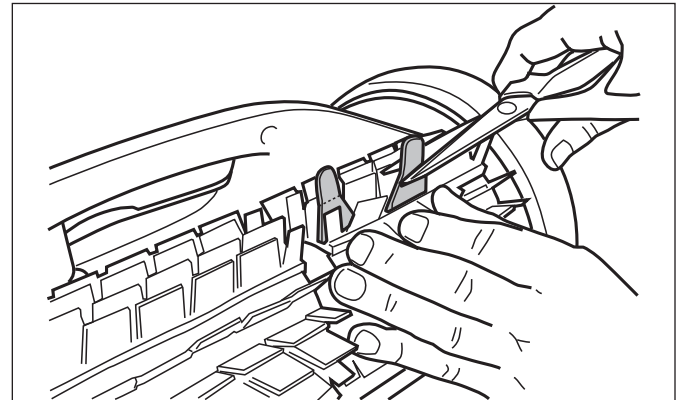

Figure 32. Cut Tabs
5. Use a pair of scissors to cut the tabs 3/4 inch from the heel so that they are no higher than the spikes as shown in Figure 32.